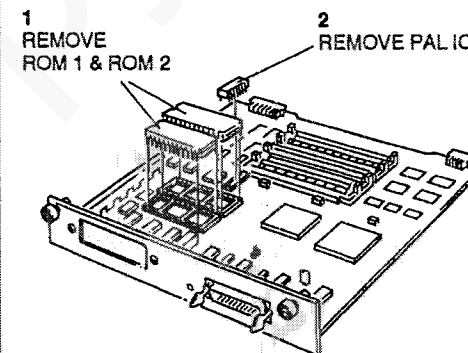

Figure 1. PCL5 Removal
4. (Figure 1) Remove PCL5 2M ROM 1, 512K ROM 2 and PAL IC from the ESS PWBA.